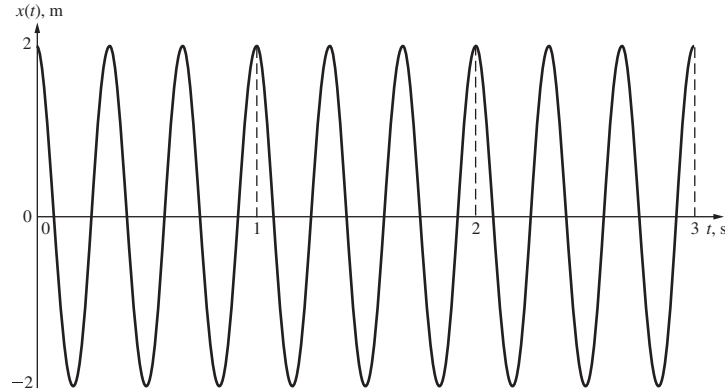

Figure 6.14 Harmonic motion of the mass-spring system for 3 s.
- (d) The plot of the displacement $x(t)$ for $0 \leq t \leq 3$ s is shown in Fig. 6.14.